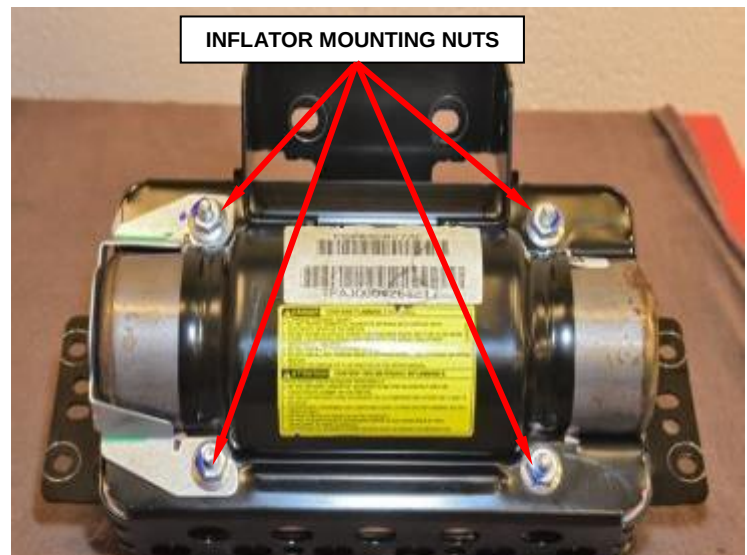

Figure 74 – Mounting Nuts
- b. Remove and **discard** the four inflator mounting nuts (Figure 74).
- n. Install the four **NEW** mounting nuts to the airbag housing and tighten to 53 in. lbs. (6 N·m) (Figure 74).